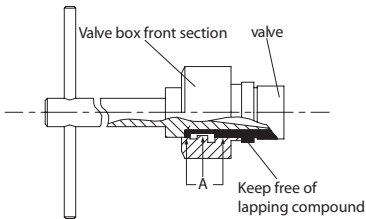

figure 3
- d. Install the front section of the Valve Box and Valve on the Arbor as shown in Figure 3.